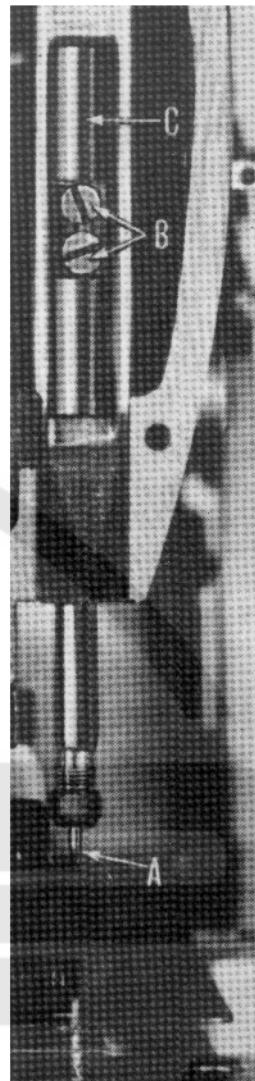

Fig. 7
The height of the needle (A, Fig. 7) is correct when the top of its eye is 1/64 inch below the underside, of the looper, with the looper point flush with the left side of the needle and the needle is ascending on the left side. If adjustment is necessary, loosen screws (B) and move needle bar (C) up or down as required and retighten screws.